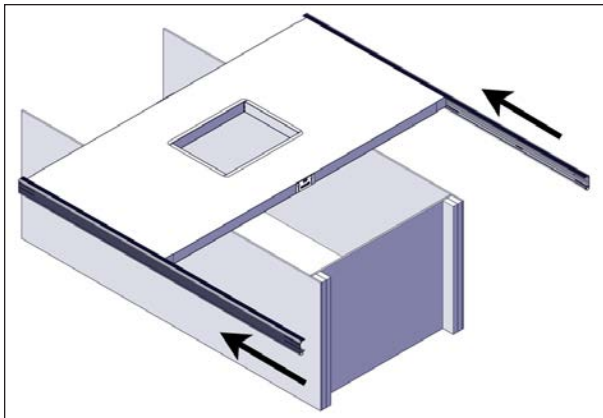
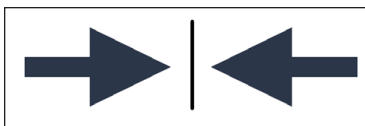

FIGURE 37: LONG C-CHANNEL INSTALLATION
FIGURE 38: CENTER LABEL
3. Install 2 long C-channels 94 9/16" (240 cm) on the panel so that the middle of the C-channel, premarked with a center label (Figure 38), is aligned with the edge of the panel, see Figure 37.